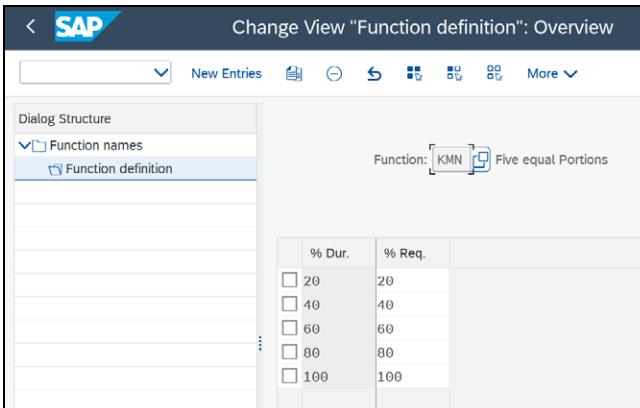

Figure 4.12: Change View “Function Definition”: Overview: Function KMN
2. Repeat these steps, but this time, select the **KMN: Five equal Portions** function. Here, the function distribution is used to split the requirement into five equal portions, displaying five distributions where each is 20% of the total capacity requirement and should be dispatched after the elapsed 20% of the operation duration (see Figure 4.12).